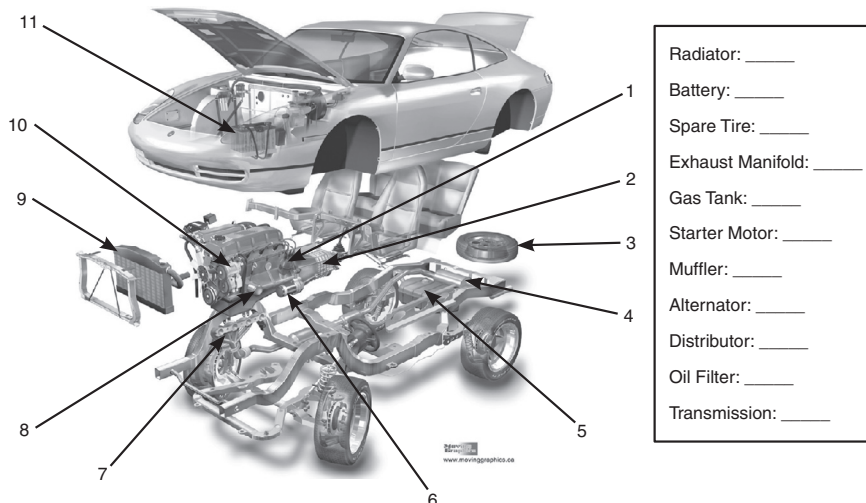

FIGURE 1.1
Fig. 1.1 shows a generic car with numbered parts. Without looking at the footnote below, can you fill in the correct number corresponding to the parts in each of the blanks?⁷
As visually appealing as Fig. 1.1 is, an engineer would consider it inadequate because it fails to express the functional connections among the various parts. Expressing in visual form the basic elements involved in a problem is a crucial tool of engineering, called a **conceptual sketch**. A first step in an engineer's approach to a problem is to draw a conceptual sketch of the problem. Artistic talent is not an issue nor is graphic accuracy. The engineer's conceptual sketch may not look at all like the thing it portrays. Rather, it is intended to (1) help the engineer identify the elements in a problem, (2) see how groups of elements are connected to form subsystems, and (3) understand how all those subsystems work together to create a working system.